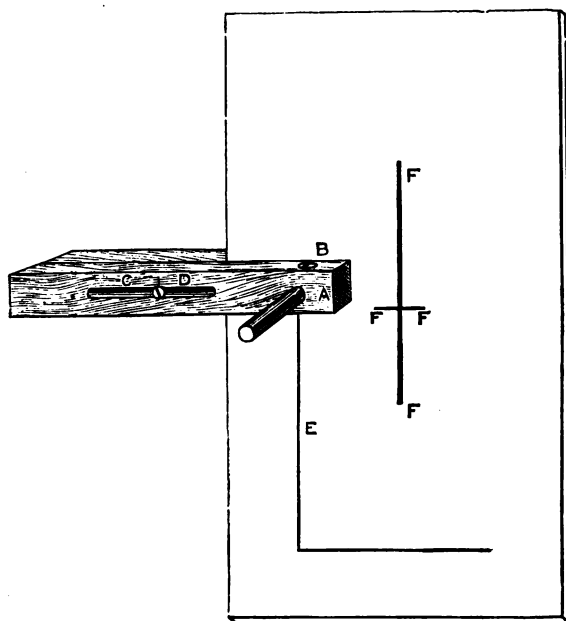

FIG. 18. MARKING AND CUTTING GAUGE.
part even of this will be bevelled off, so as to make the frame look light ; for if made thicker, it is sure to look clumsy and heavy. The strips having to be cut from a board of the necessary thickness, the latter will have to be marked by setting a carpenter's gauge to the width, in this case, a shade over $\frac{1}{2}$ in., to allow for planing. The carpenter's gauge may be modified by constructing it like Fig. 17, which shows the gauge on a larger scale. Fig. 18 illustrates the same in actual use. It is made of two pieces of hard wood, being a plain squared block, and (A) a longer